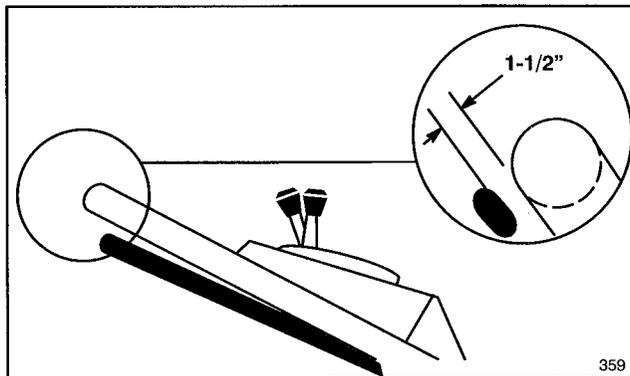

Figure 20
2. CHECK ADJUSTMENT—Adjustment is correct when rear wheels stop turning and control bar is about 1-1/2 inches from handle (Fig. 20).